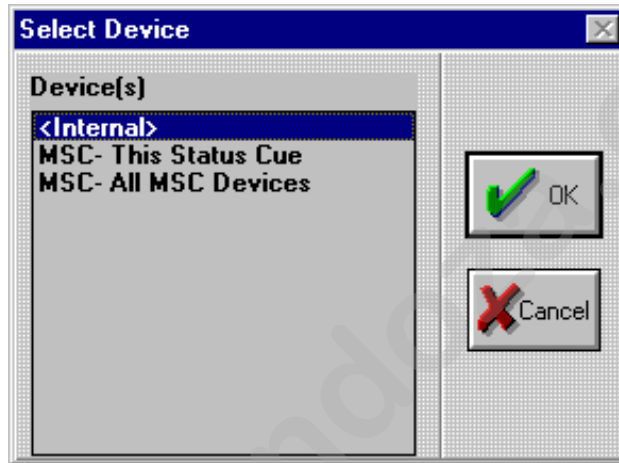

Figure 8.20. Select Device Dialogue Box
2. Double click the **Device** field to bring up the **Select Device** dialogue box. Refer to Figure 8.20.